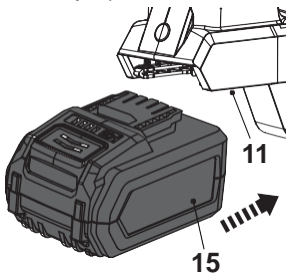

Fig. 5
1. Align the sliding slots of the battery pack (15) with the battery docking port (11) and slide the battery pack (15) in to attach it. Ensure it clicks in place (Fig. 5).